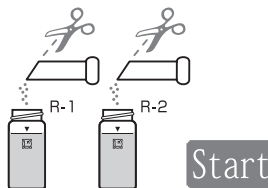

Fig.3
5. Take out the cell from the cell box and add R-1 and R-2 Reagent into the cell. Press <Start>. (Fig.3)